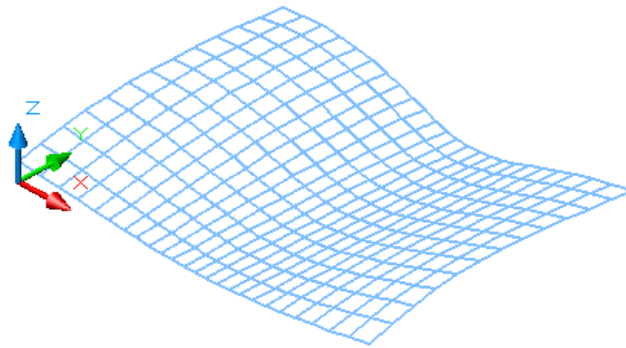

Figure Step 6
Step 6 Enter the commands shown below and your model will display as shown in the figure. (Figure Step 6)